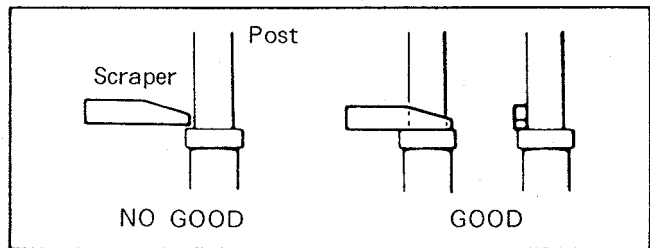

Fig. M3
5. Place the side of the scraper against the each post as shown in Figure M3, set the gauge to zero, then slowly raise the post until the lower tape guide just touches the bottom of the scraper. Use the gauge to determine the exact point at which the lower tape guide touches the scraper. (Fig. M3)